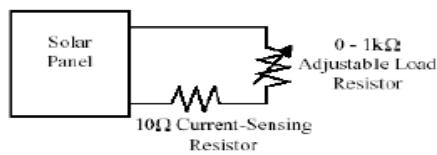

Figure 2. Solar Panel Equivalent Circuit
- Translates to an equivalent circuit as in Figure 2